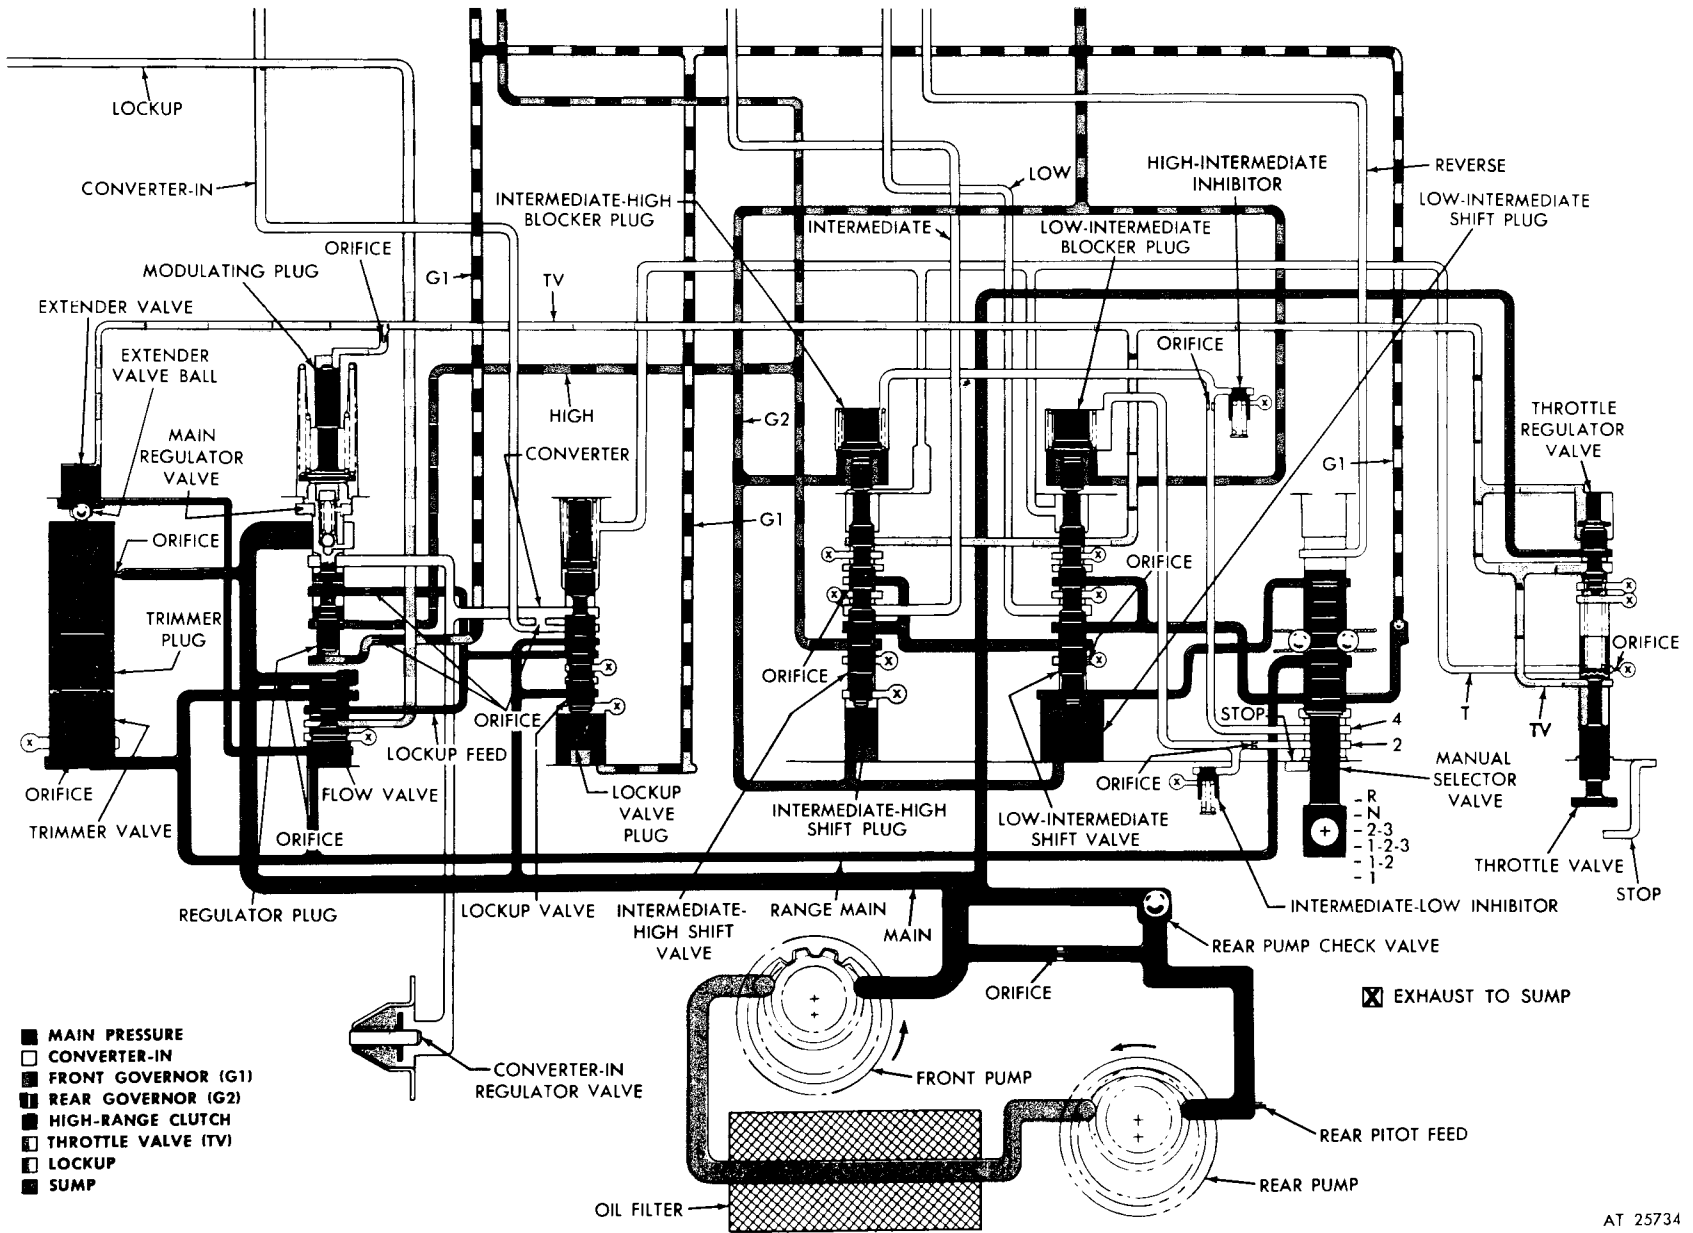

Figure 2-7. Hydraulic system, high-range operation, selector at 1-2 position—schematic view.
*a. Low-Range Locked Out* (fig. 2-7). When the
*b. Other Functions Same as 1-2-3 Operation* (fig. 2-7). In high-range (2-3) operation, the other circuits operate as described in paragraph 2-17 for high-range (1-2-3) operation.